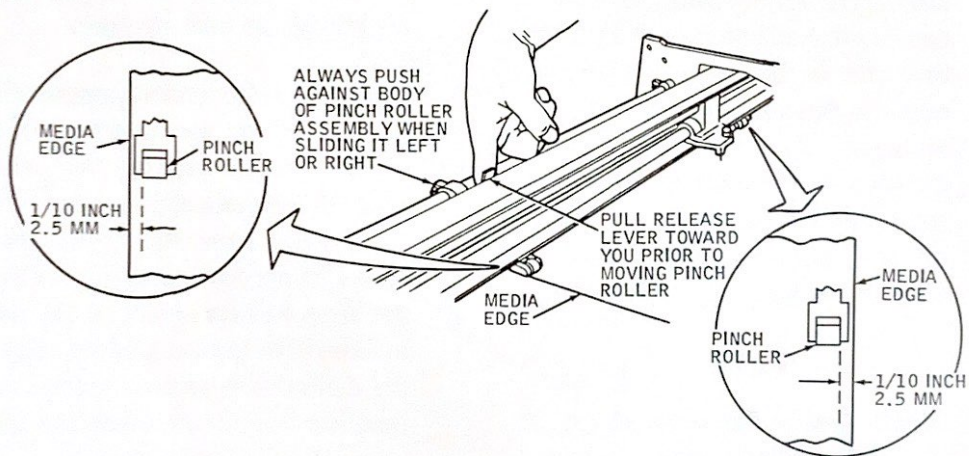

Figure 5-14. Pinch Rollers
5. Position the left and right pinch rollers to 1/10 of an inch (2.5 mm) from the edges of the media. Move the pinch roller by its "body" rather than by its lever. (Refer to Figure 5-14.)